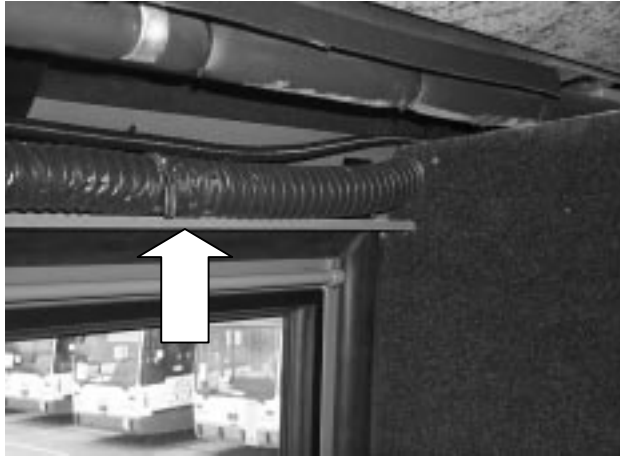

Figure 16: Parcel rack to restroom flex tubing installation
- 4) Cut a suitable length (approximately 3 ft) of 2-11/64 diameter flex tubing VH 660074812 to be connected to the new molding/diffuser, which will be installed in the restroom later in the procedure. Connect one end of this tubing to the sleeve and secure with a tie wrap. Insert the other end through the top opening of the restroom wall making sure the tubing sticks about 1 foot into the room. If no hole is present, make one as per procedure in item 4 of this Bulletin. Secure flex tubing with tie wraps (see Figure 16).